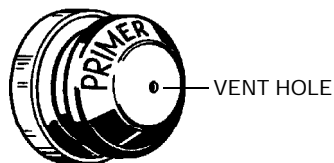

Figure 4
C. Push primer three (3) times (see Figure 4). Always cover vent hole when pushing primer. See warm engine restart "NOTE" above.
E. Push primer three times, making sure to cover vent hole when pushing (see Figure 4).